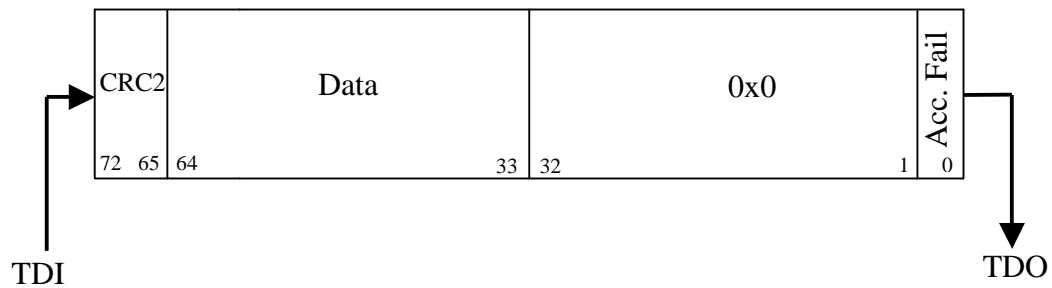

Figure 10: WISHBONE Scan Chain (data shifted out)
- CRC2 (Figure 10: WISHBONE Scan Chain (data shifted out)) is shifted out. It is calculated from the address and the R/W that were shifted in and data that is shifted out (data read from register).